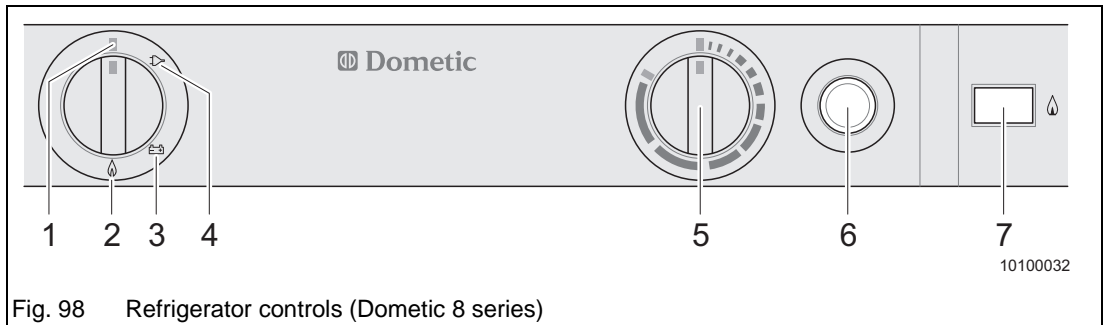

Fig. 98 Refrigerator controls (Dometic 8 series)
- ➔ On refrigerators with manual ignition, press the battery ignition (Fig. 98/6) until the flame display has moved to the green area.